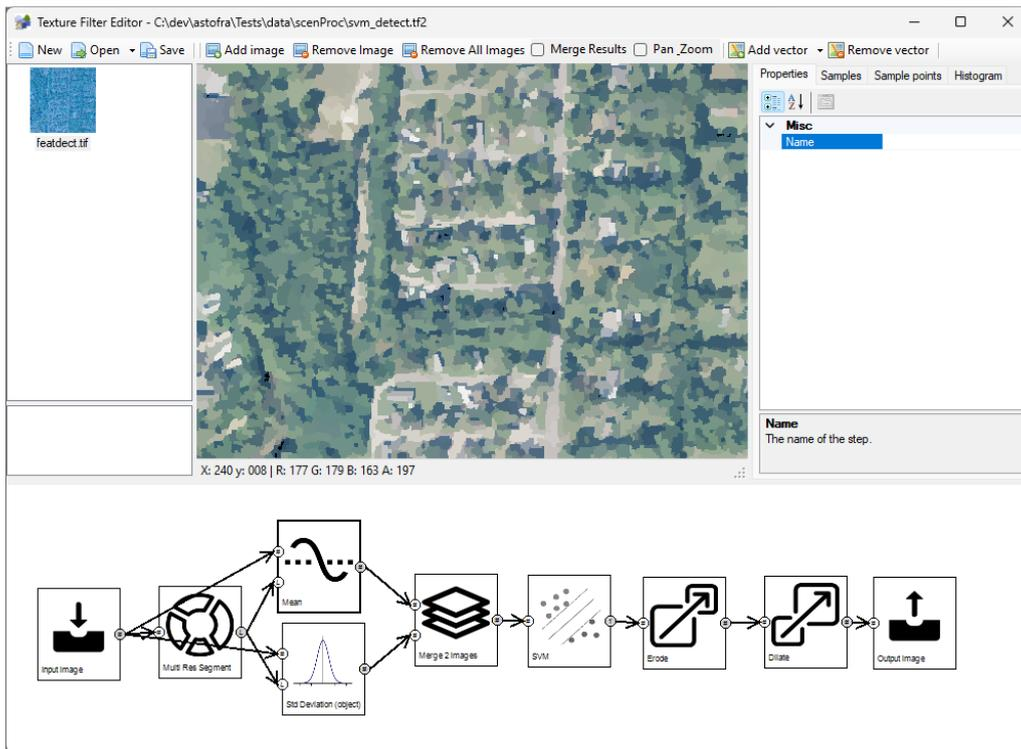

Figure 6.51: The mean color of each segment
- The mean color and NIR values for each of the objects in the image is calculated, see Figure 6.51.